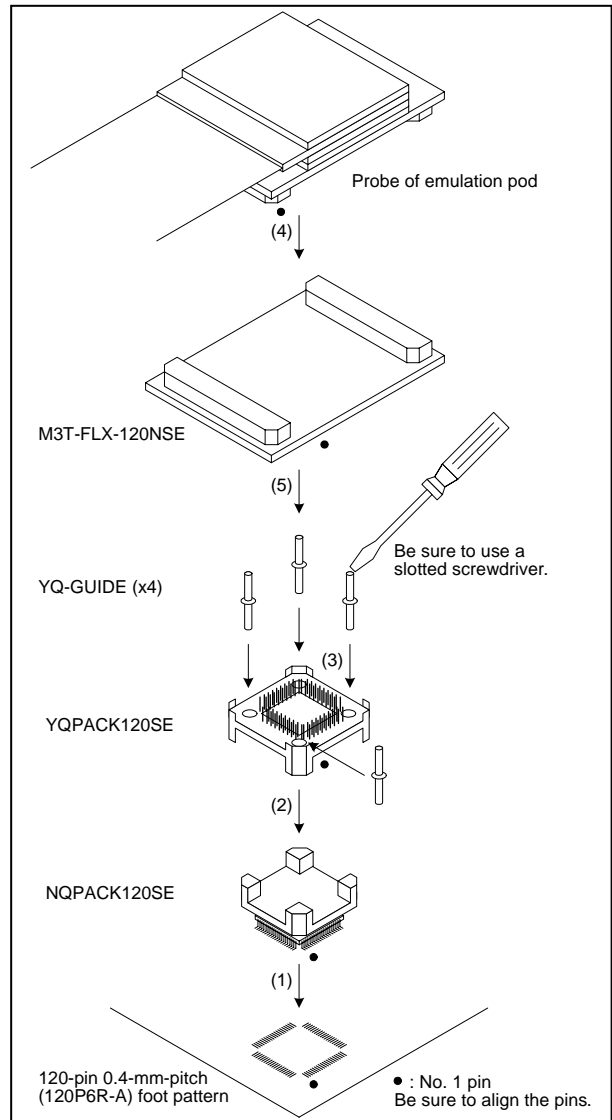

Figure 3 Connection procedure of the M3T-FLX-120NSE
5. Connection Procedure (See Figure 3)